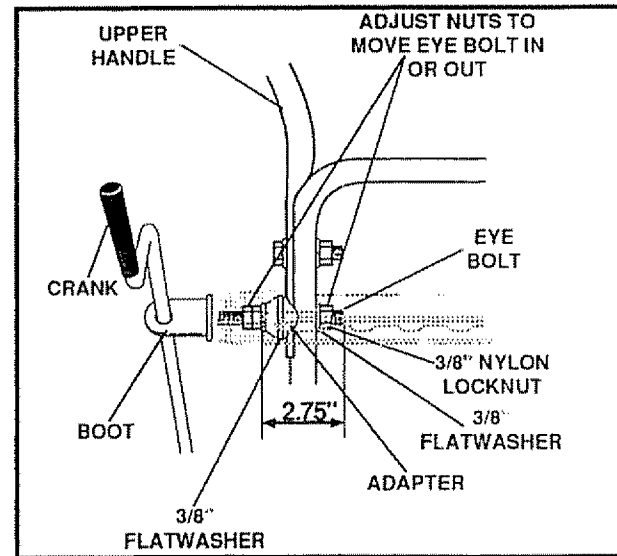

FIG. 4B
- Remove the 3/8" nylon locknut and flatwasher from the eye bolt assembly (on the chute crank assembly removed earlier). Check to make sure the two 3/8" jam nuts are tight. The jam nuts should be 2.75 inches from the end of the eye bolt (See Fig. 4B)
- Install eye bolt through lower hole in the left hand side of the handle and shifter plate (See Fig. 4B)
- Install the 3/8" flatwasher and the 3/8" nylon locknut loosely on the eye bolt as shown in Fig. 4B